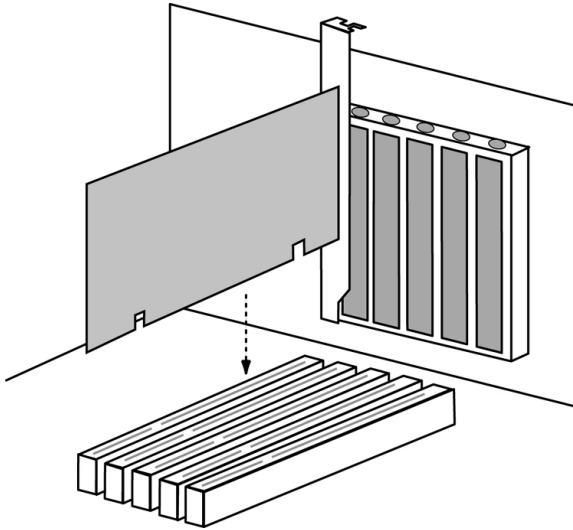

Figure 1. Insert the FastTrak card into an open PCI slot
The FastTrak TX4 Serial ATA RAID card fits into any available PCI slot on your PC's motherboard (see Figure 1, below):
3. Install the FastTrak Serial ATA RAID card into the open slot (see Figure 1 below). Secure the bracket to the system's frame.